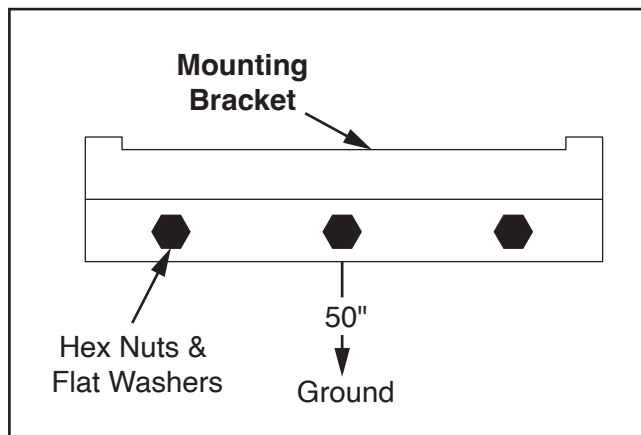

Figure 9. Wall bracket mounted to concrete wall.
2. Mount (3) $\frac{5}{16}$ " x $2\frac{3}{4}$ " concrete anchor studs to wall in mounting hole locations.
3. Secure wall mounting bracket to anchor studs with (3) $\frac{5}{16}$ " hex nuts, and (3) $\frac{5}{16}$ " flat washers (see **Figure 9**).